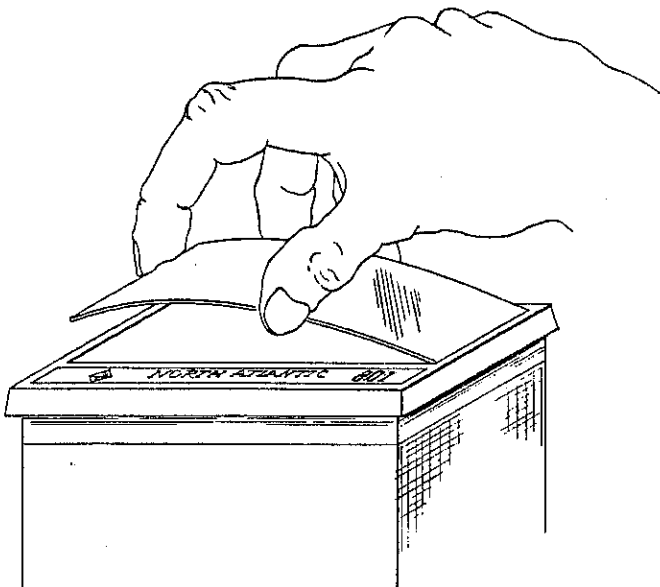

Figure 2-4. Replacement of Lens
- e. Replace lens, masked side inward, by bowing slightly and resting the edges into the unit edge grooves (figure 2-4). Release lens, allowing it to snap into place.